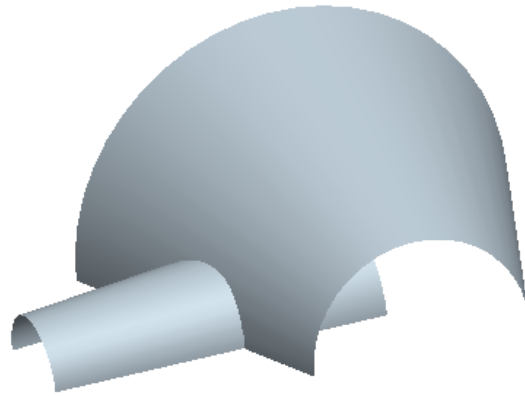

Figure 13-75 Second feature
12. Select the **FRONT** datum plane. Choose **OK** from the **SURFACE** dialog box. The blend surface is extruded up to the selected datum plane as shown in Figure 13-75.